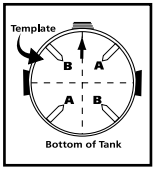
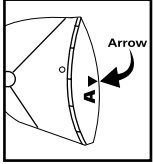
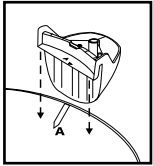

FIGURE 1
FIGURE 2
FIGURE 3
3. Set the tank upside down on the floor. Set the caster feet at approximately 45 degrees from an imaginary line between the inlet mounting and the handle assembly. **FIGURE 1.**
4. Take caster foot marked with the letter A and align as shown in **FIGURE 1.** See **FIGURE 2** for caster foot marking.
5. Take caster foot marked with the letter A and align arrow on foot **FIGURE 2,** with arrow on template also marked with the letter A, **FIGURE 3.**